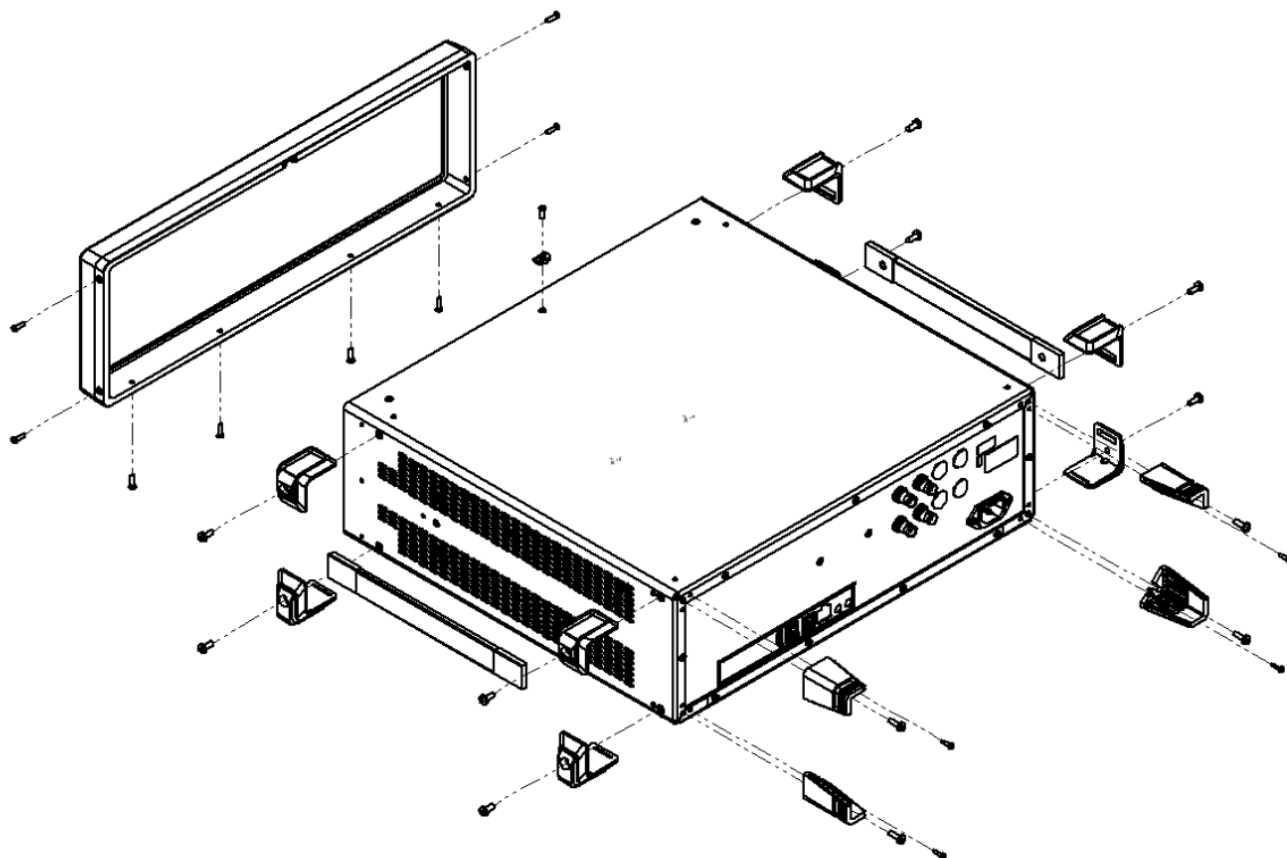

Figure B-1. Removing Instrument Handles and Feet for Rack Mount
3. Using a Phillips screwdriver, remove the front shroud, feet, and handles from the instrument (see Figure B-1). Save the screws for later use.